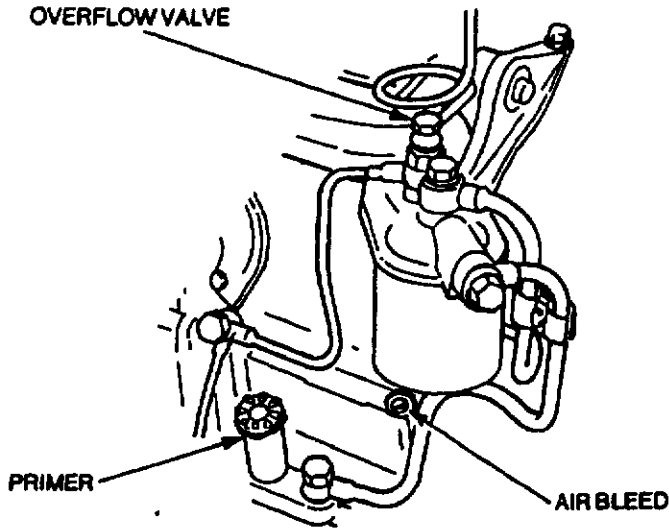

Figure 3-2 Bleeding the Fuel System
- b. Loosen the overflow valve on the fuel filter adaptor (see Fig. 3-2) and continue operating the primer until a solid stream of fuel flows from the valve.